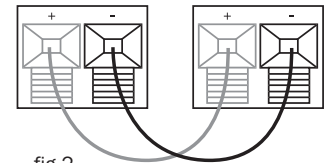

fig.2.
4. Observing polarity is of the utmost importance while connecting your speakers. Ensure that the red (+) terminals on your amplification system are connected to the red (+) on the speakers, and black (-) on your amplification system to black (-) on your speakers (fig.2).